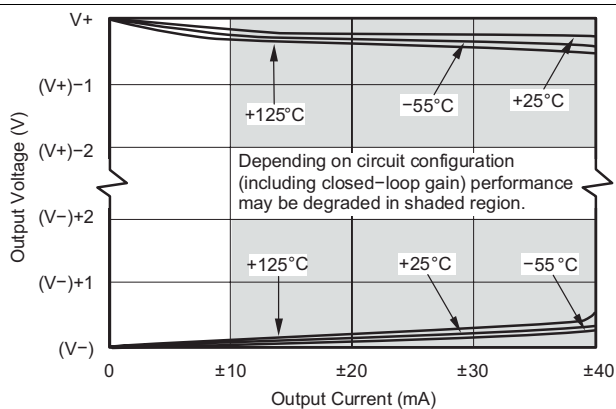

Figure 17. Output Voltage Swing vs Output Current
(4) Output voltage swings are measured between the output and power supply rails.
(5) See Figure 17.
A class AB output stage with common-source transistors achieves rail-to-rail output. For light resistive loads ( $>10\text{ k}\Omega$ ), the output voltage swing is typically ten millivolts from the supply rails. With heavier resistive loads ( $600\text{ }\Omega$  to  $10\text{ k}\Omega$ ), the output can swing to within a few tens of millivolts from the supply rails and maintain high open-loop gain. See Figure 17 and Figure 18 for more information.